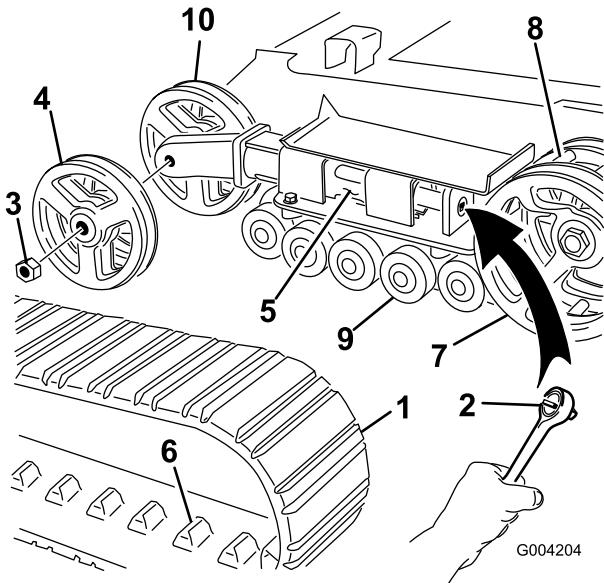

Figure 46
4. Using a 1/2 inch drive socket, release the drive tension by turning the tensioning screw clockwise (Figure 44 and Figure 46).
5. Push the tension wheel toward the rear of the unit to move the tension tube against the frame (Figure 46). (If it does not touch the frame, continue turning the tensioning screw until it does.)
6. Remove the nut securing the outer tension wheel and remove the wheel (Figure 46).
7. Remove the track (Figure 46).
8. Remove the nut securing the inner tension wheel and remove the wheel (Figure 46).
12. Install the inner tension wheel and secure it with the nut removed previously (Figure 46).
14. Install the new track, ensuring that the lugs in the track fit between the spacers in the middle of the drive sprocket (Figure 46).
15. Install the outer tension wheel and secure it with the nut removed previously (Figure 46).